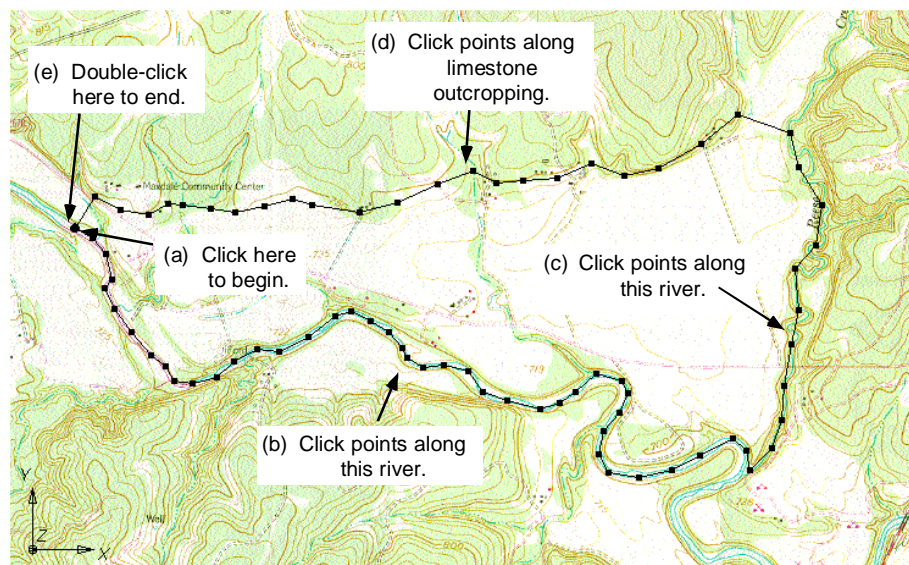

Figure 7.3 Creating the Boundary Arc.
2. Begin the arc by clicking once on the left (west) side of the model at the location shown in Figure 7.3.
3. Create the arc by proceeding around the boundary of the site in a counter-clockwise direction and clicking on a sequence of points around the boundary. Don't worry about the spacing or the exact location of the points; just use enough points to define the approximate location of the boundary. The boundary on the south and east sides of the model should coincide with the rivers. The boundary along the top should coincide to the limestone outcropping as shown in Figure 7.3.